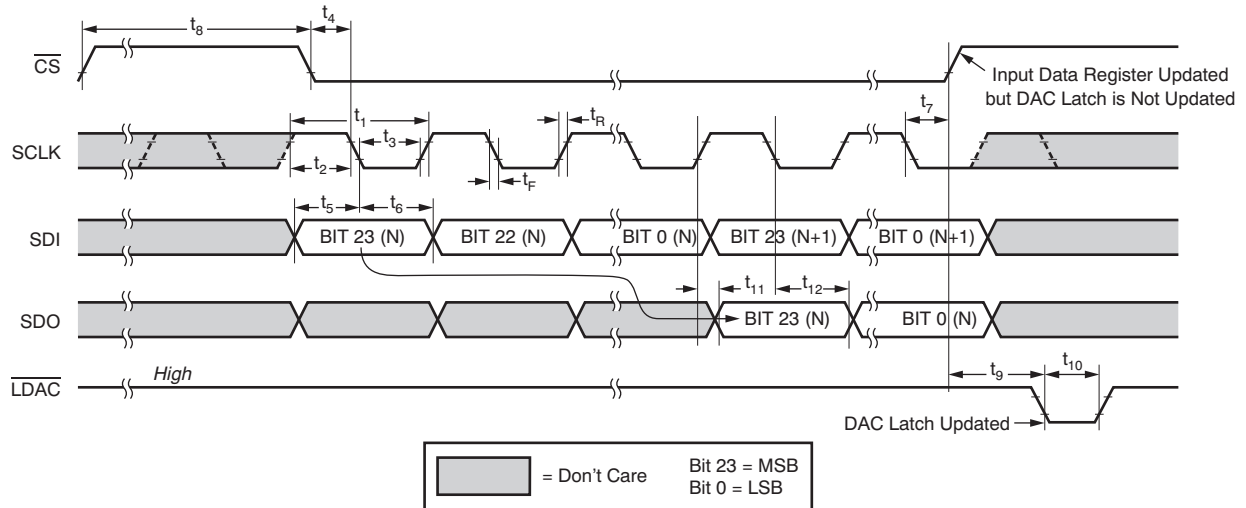
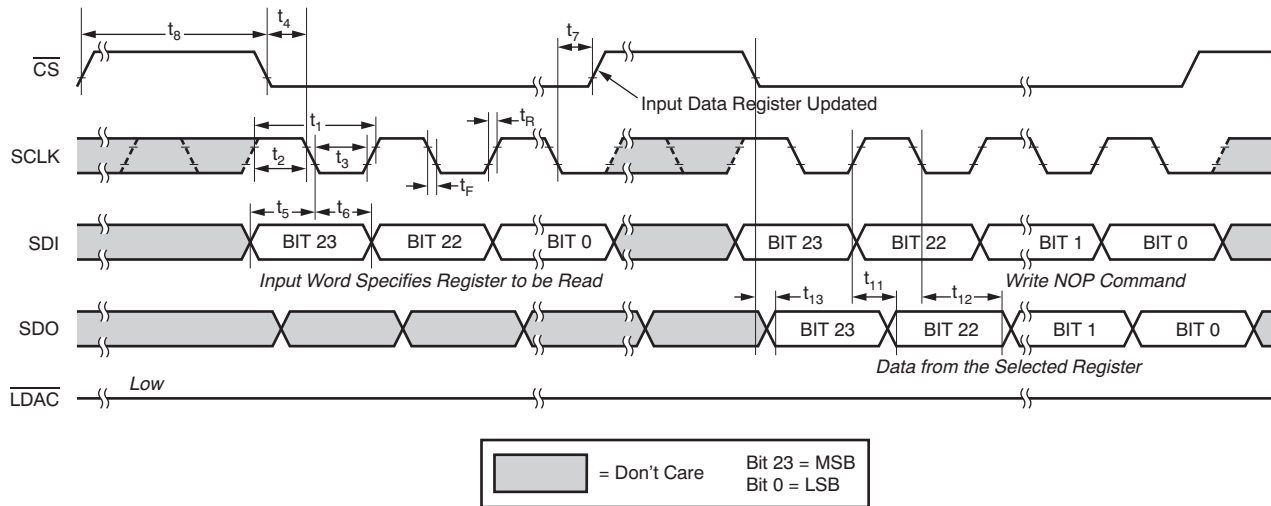

Figure 2. SPI Timing for Daisy-Chain Mode
Figure 3. SPI Timing for Readback Operation in Stand-Alone Mode
**TIMING CHARACTERISTICS** For Figure 2 to Figure 3(1)(2)(3)